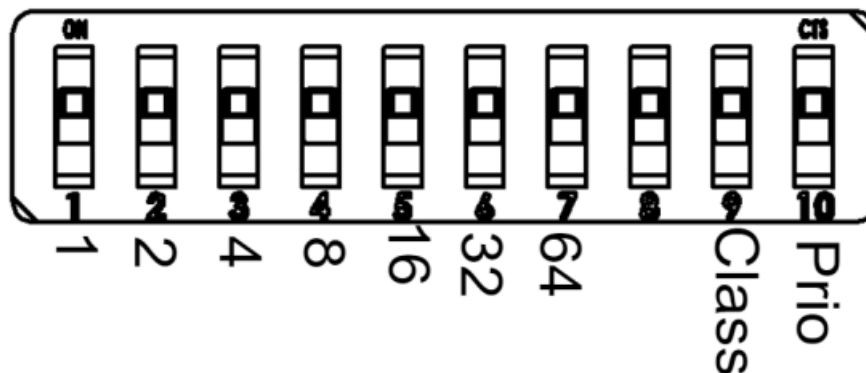

Fig. 6
1. The dip switch used to address your device has 10 individual switches (Figure 6).